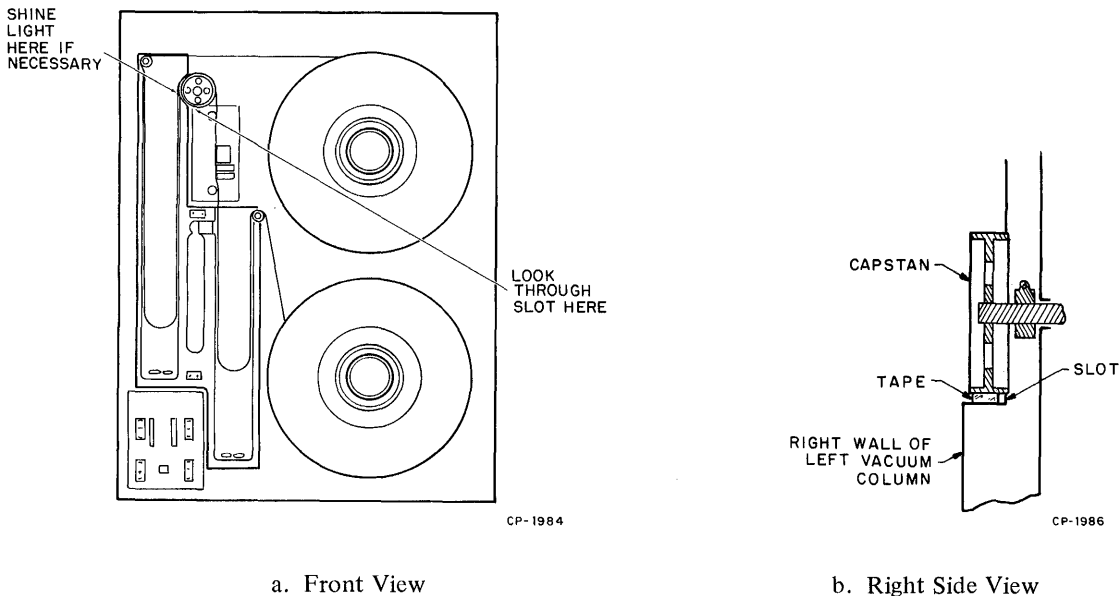

Figure 5-52 Capstan Wobble Check
- 20. Run tape forward. Look in the slot between the inside tape edge and the left vacuum column floor while the tape is moving forward. If room light is not adequate, shine penlight through from inside of vacuum column. (See Figure 5-52.)